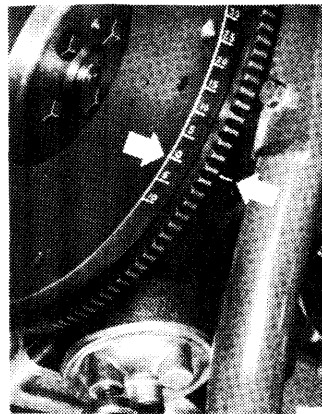

Fig. 3 Aligning "O" Degree Mark on Flywheel with Mark on Cylinder Block.
5) Replace camshaft bearings and caps, then tighten cap nuts. Align camshaft timing mark with mark on cylinder head as shown in Fig. 3.
2) Mount pinion sprocket on crankshaft. Align "O" degree mark on flywheel with mark on cylinder block. See Fig. 3.